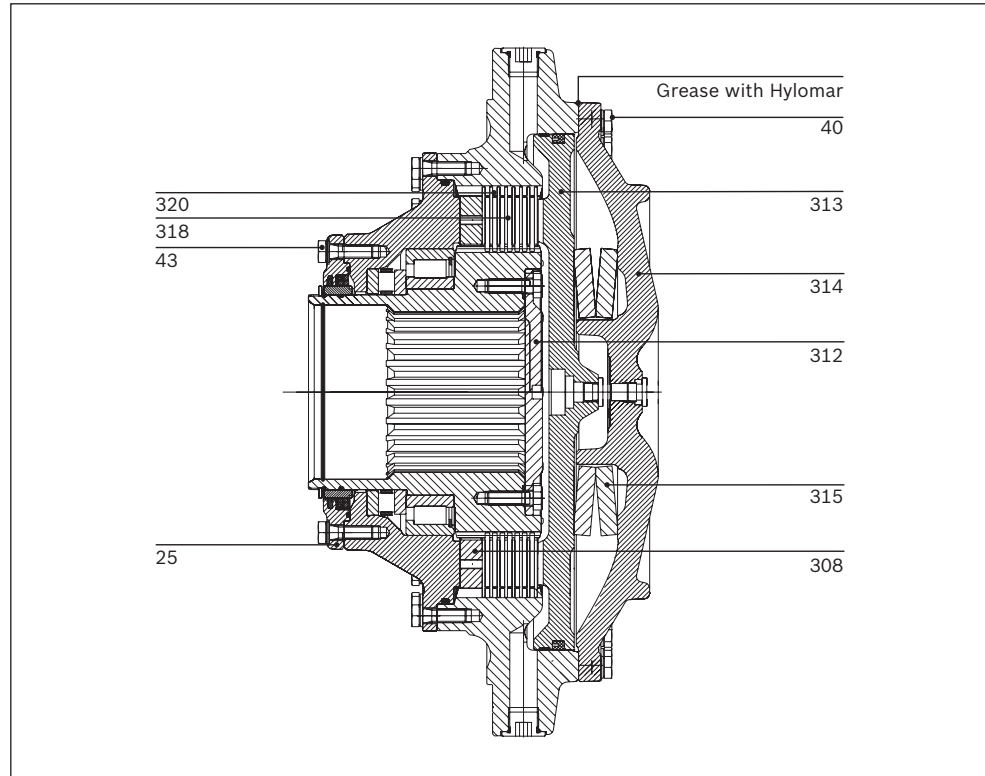

Fig. 3.28
**Disassembly of MDA 5, 7 and 10****Fig. 3.28**